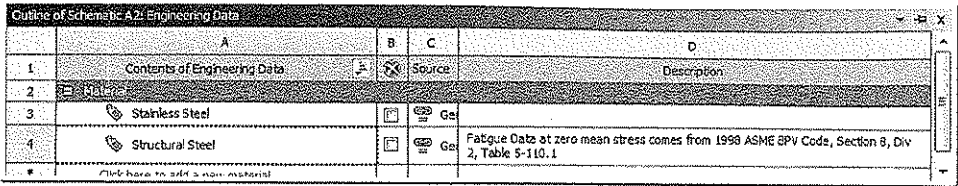

Figure 6-24 The Outline window displaying the newly added Stainless Steel material
6. Next, choose the **Engineering Data Sources** toggle button to close the **Engineering Data Sources** window; **Stainless Steel** row is added to the **Outline** window in the **Contents of Engineering Data** section, as shown in Figure 6-24.